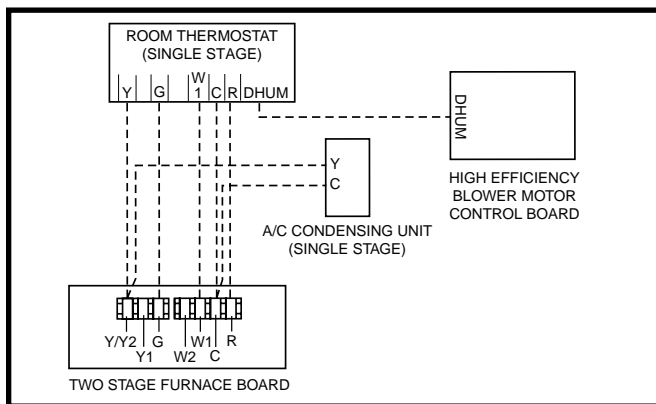
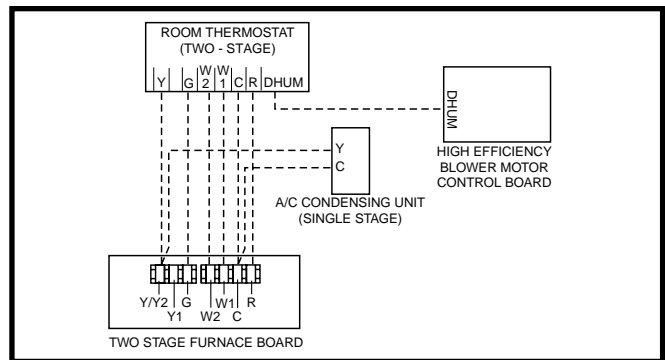
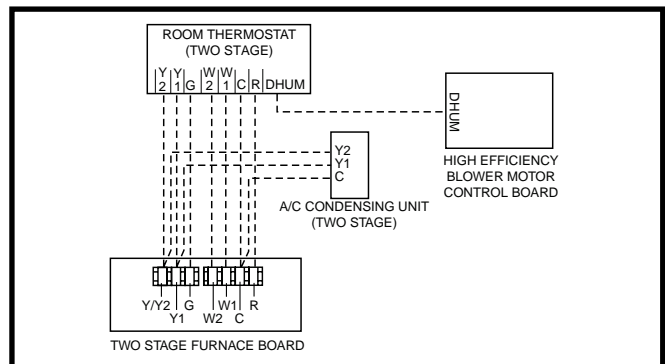

Figure 22. Wiring Configuration 1
Figure 23. Wiring Configuration 2
Figure 24. Wiring Configuration 3
- Connect the thermostat's **W** output to the furnace control boards **W1** terminal. This allows the furnace to always run in low output mode. See Figure 22.
This option uses the full two-stage heating capability of the furnace with a single stage outdoor unit. See Figure 23.
This option uses the full two-stage heating capability of the furnace with a two-stage outdoor unit. See Figure 24.
The Autostaging feature makes it possible to use a single stage thermostat and still receive some of the benefits of 2-stage furnace operation. If Autostage is enabled, the furnace will drop to **LOW** fire after initially starting in **HIGH** fire. After a period of 10 minutes, the furnace will then stage up to **HIGH** fire, until the heating load is met. See Figure 22 and the Low Voltage Connection section on page 25.
- ✓ Verify that all needed thermostat wires are securely connected to the correct leads on the terminal strip of the circuit board. See Figure 22, Figure 23, & Figure 24 \(page 26\).
The operating sequences for the heating, cooling, and fan modes are described below. Refer to the field and furnace wiring diagrams: Figure 21 \(page 25\), Figure 22 \(page 26\), Figure 23 \(page 26\), Figure 24 \(page 26\) & Figure 32 \(page 40\), Figure 33 \(page 41\), Figure 34 \(page 42\), & Figure 35 \(page 43\).